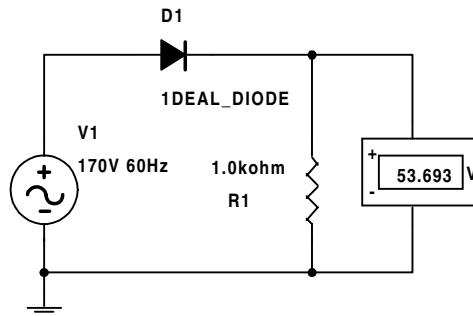

Figure 3-12 Multisim simulation
- The Multisim schematic is shown in Figure 3-12. The result is in good agreement with the theory. This is *not* always true with the results of simulation. It is a good idea to verify that the simulator gives correct results with a simple circuit before going to more complicated ones.